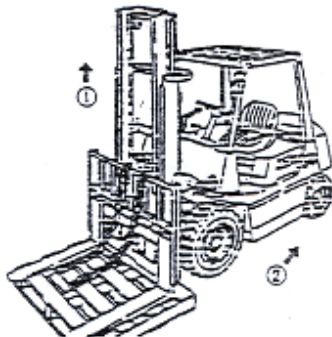

Figure 2-38
- (1) Place a tray on the forklift and park it on level ground.
- (2) Lower the fork and tray down to the ground.
- (3) Remove the upper end joint of the chain and remove the chain from the chain wheel.
- (4) Lift the inner main frame (① in Figure 2-38)
- (5) Reverse the forklift after confirming that the fork frame has been separated from the outer main frame (② in Figure 2-38).
- (6) Replace the main roller